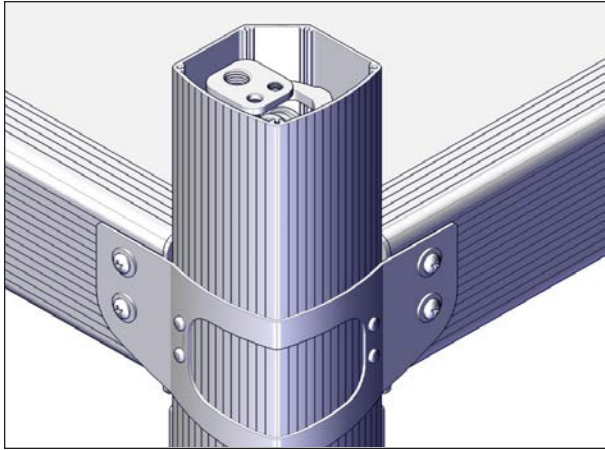

FIGURE 78: INTERNAL JACK
5. Raise the jacks with the key switch. The four internal jacks will raise but the cover should stay in place, see Figure 78.